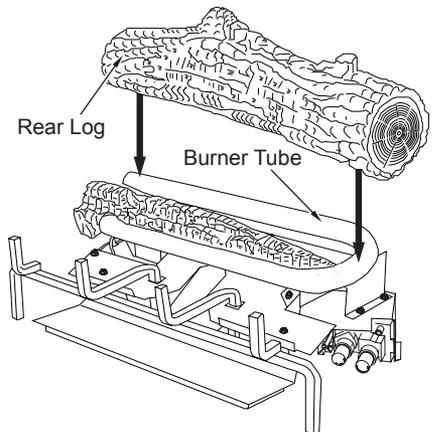

Figure 57 - Installing Rear Log
2. Place the rear log on the base assembly as shown in Figure 57. The rear log has grooves in the bottom which will allow the log to sit on the burner and behind the bottom ember log